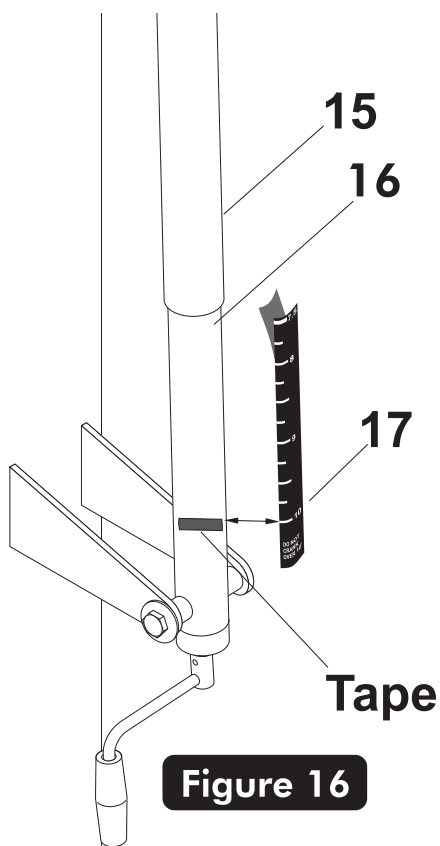

Figure 16
25. Remove the adhesive backing from the Height Decal (#17). Next, carefully align and stick decal to backside of steel actuator (#16) starting at the **10 ft mark first**. Be sure to keep the height decal straight and rub out all air bubbles. See **Figure 16**.